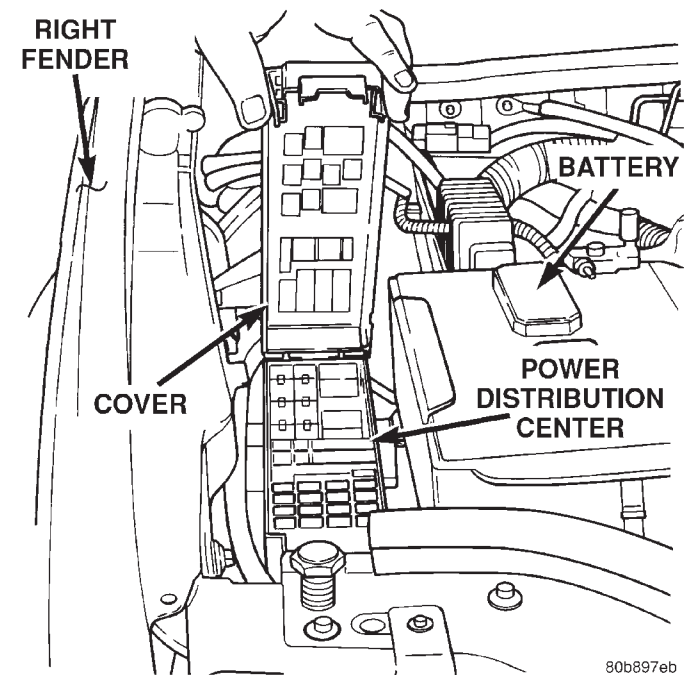

Fig. 14 Power Distribution Center
(1) Disconnect and isolate the battery negative cable.
(2) Remove the cover from the Power Distribution Center (PDC) (Fig. 14).